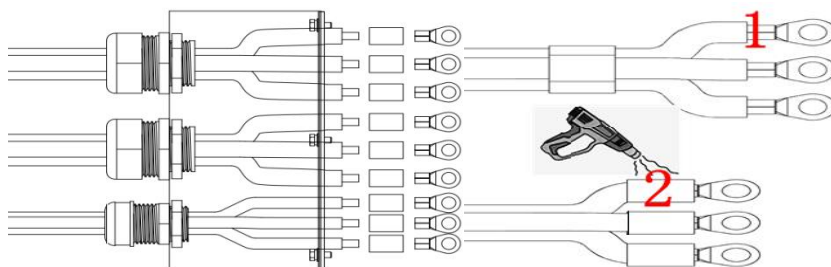

Fig. 6.3.1.2
- ⑤. Fix the wiring terminals shown in Fig. 6.3.1.2 to the GRID terminal block on the case shown in Fig. 5.4.1 (three ones on left side of the AC terminal block) with the screws (provided for free). At the same time, respectively match L, N, PE with the L, N and PE on
the case. Then fix the waterproof cover shown in Fig. 6.3.1.1 to the case with the screws, and tighten the waterproof cap 5 shown in Fig. 6.3.1.1.